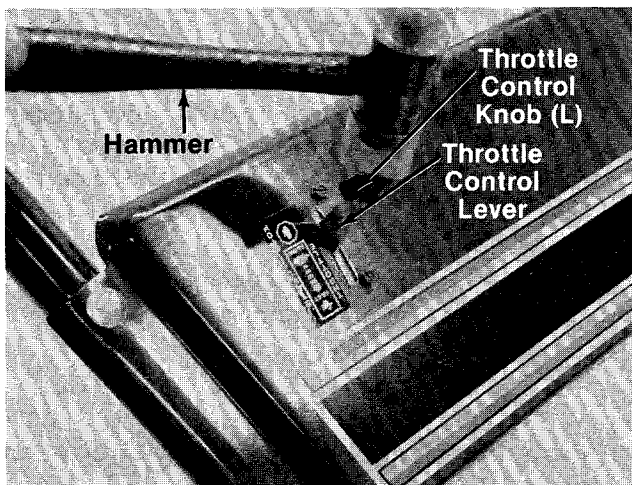

FIGURE 8.
2. Place the throttle control knob (L) over throttle control lever. Tap on with a hammer. See figure 8.
3. Secure throttle control cable to handle with cable ties (N). Cut off excess ends.